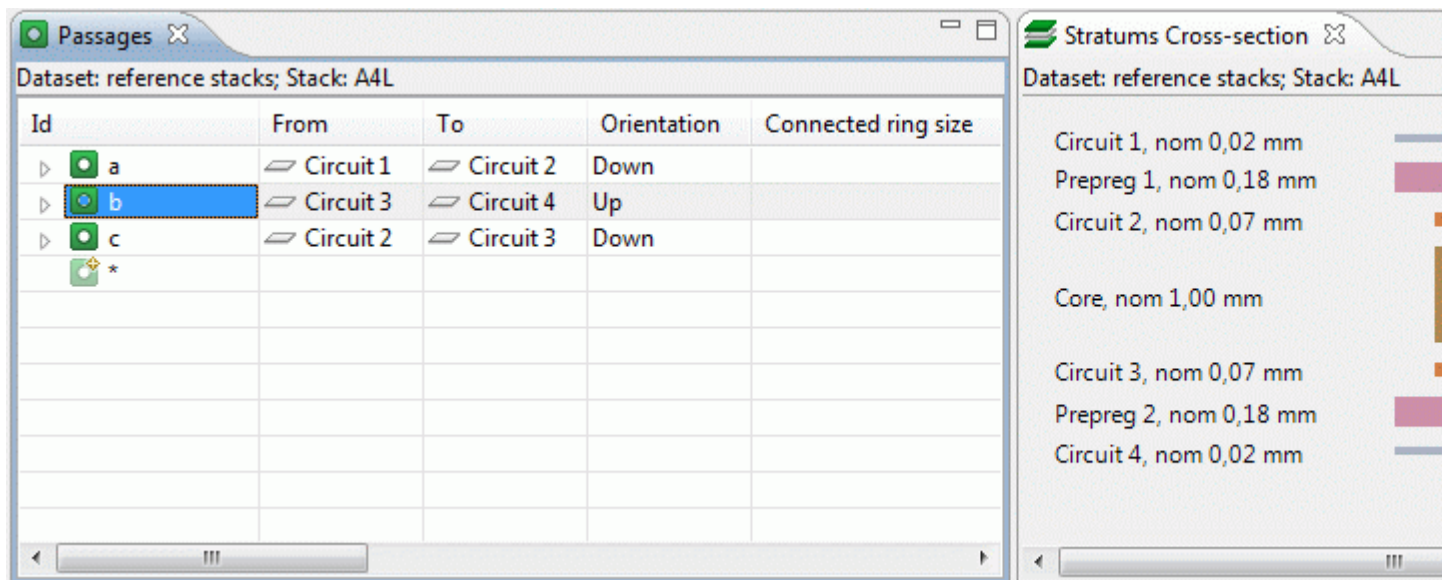

Figure 4. Stratums view with selected passage and Startums Cross-section view with the highlighted passage (red color)
- The particular passage is highlighted in the  Stratums Cross-section view (see Figure 4).